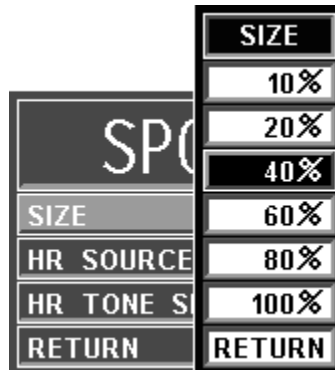

Figure 4-12. The SpO2 SIZE Menu
- a. **SIZE.** (See Figure 4-12) Selecting this menu option provides the operator with the ability to change the size of the SpO2 pulse waveform. The options are 10%, 20%, 40% (default), 60%, 80% and 100%.